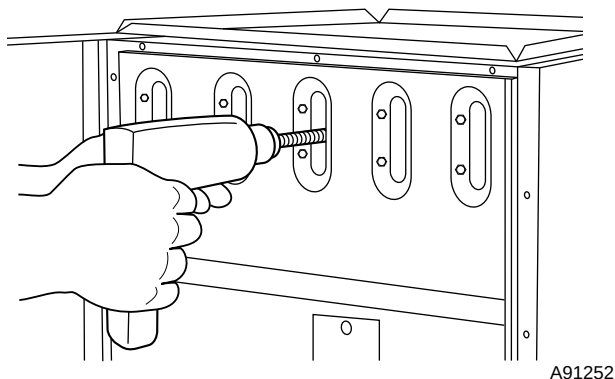

Fig. 7—Cleaning Heat Exchanger Cell
- (3.) Insert brush end of cable into upper opening of cell and slowly rotate with drill. DO NOT force cable. Gradually insert at least 36 in. of cable into 2 upper passes of cell. (See Fig. 7.)